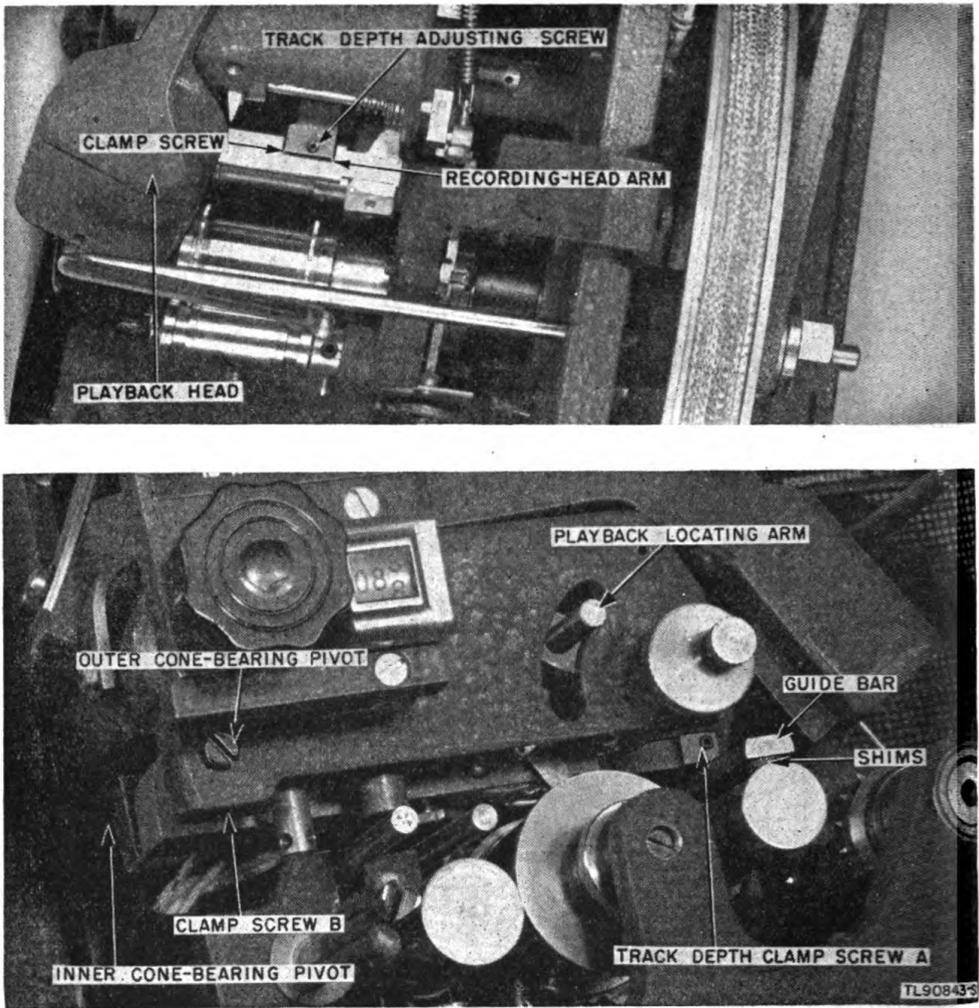

Figure 52. Recording-head adjustments.
of the groove. If mutilation exists, the needle is probably chipped or otherwise damaged. Change the needle and make more unmodulated tracks. Check again for depth. If adjustment is required, proceed as follows (fig. 52) :
(1) Push down the playback locating arm to release the playback head. Move the playback head, to the side to expose the track-depth-adjusting screw. If necessary (with selector knob on NEUTRAL) turn the index knob until the track-depth adjusting-screw clamp screw is more accessible.
(2) Loosen the clamp screw. Turn the track adjustment screw to the right to decrease the depth of the track. Turn to the left, to increase the track depth. A slight turn will affect the depth of the track considerably.
(3) Check the depth of the track as outlined above. Readjust as required. Tighten the clamp screw and lock the playback head in place with the playback locating arm.
(4) Make a recording and playback to check sound.
*d.* CHECKING AND ADJUSTING RECORDING-ARM PIVOT (fig. 52).
If the recording arm is not free to move up and down, the recording needle will not freely reach the depth of track to which it is adjusted. To check for freedom of action at the cone-bearing pivots, insert a screw driver under the recording head arm (fig. 52) (with selector knob in RECORD position) and rock arm a few times. See if the recording head returns to normal rest position freely. Adjust only if necessary. To adjust, proceed as follows (fig. 52):